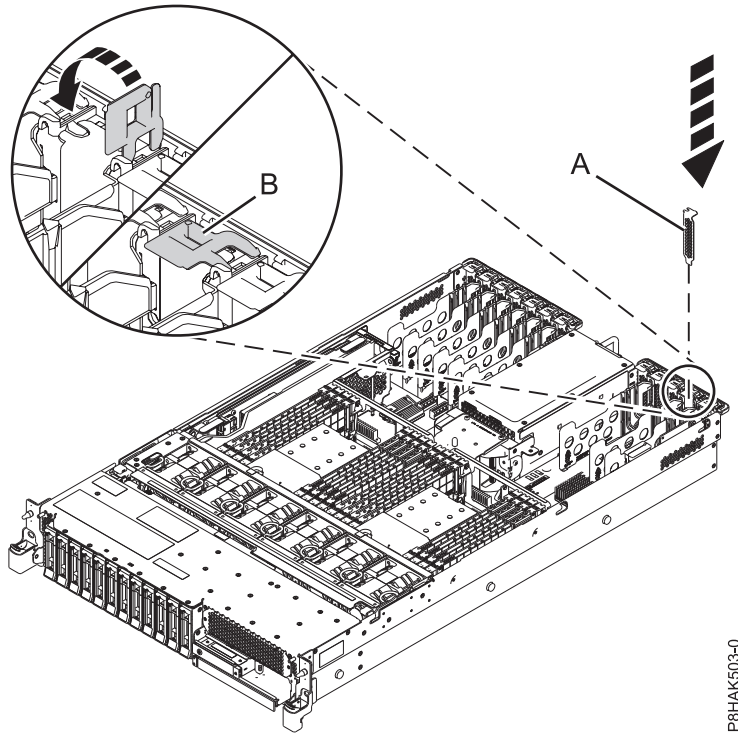

Figure 21. Installing a filler in a PCIe adapter slot in a 5148-21L, 5148-22L, 8247-21L, 8247-22L, 8284-21A, or 8284-22A system
- a. Carefully grasp the filler tailstock and align the filler with the slot and its connector on the system backplane, as shown in Figure 21 on page 36.